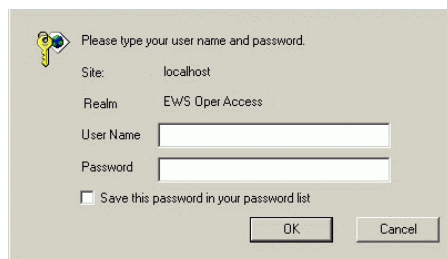

Figure 2-63 Enter Network Password Dialog Box
3. At the browser, enter the IP address of the director as the Internet uniform resource locator (URL). Use the default IP address of **10.1.1.10**. The *Enter Network Password* dialog box displays (Figure 2-63).